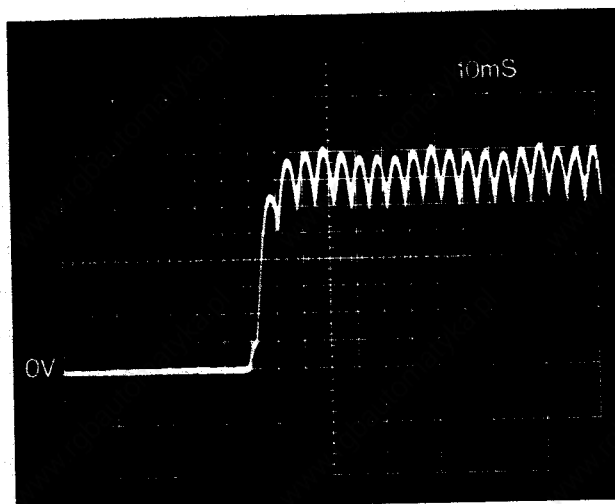

Fig. 6.4.1.3.1
- Connect reference value potentiometer as shown in Fig. 6.4.1.1